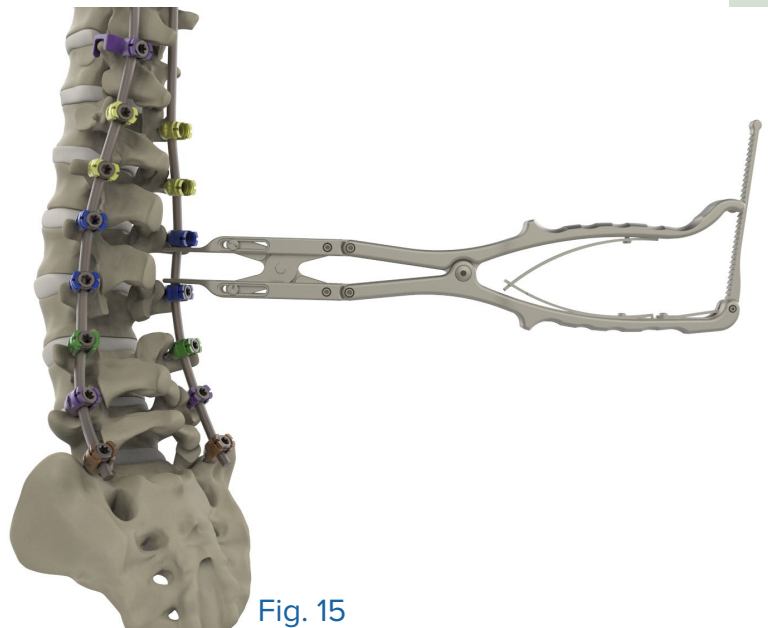

Fig. 15
- Utilize the compressor or distractor to achieve the desired level of compression or distraction (Fig 15).